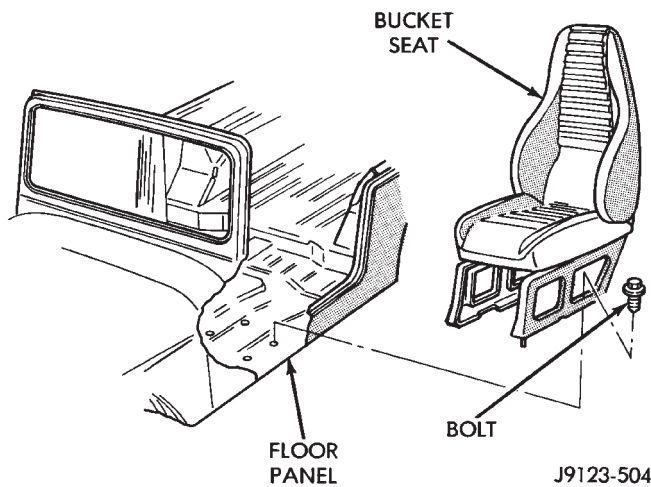
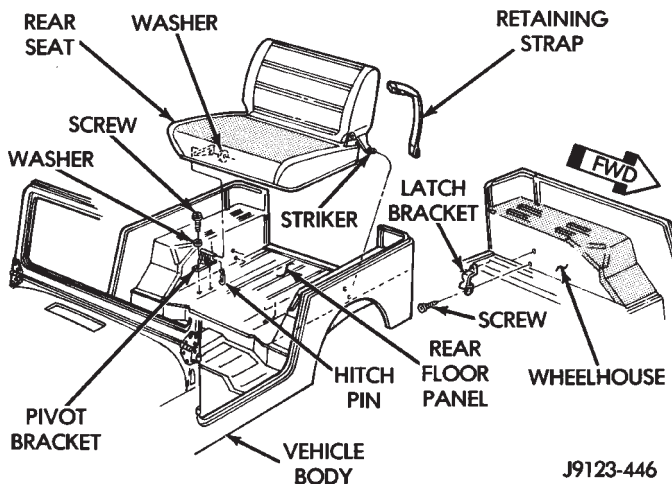

Fig. 19 Bucket Front Seat
Fig. 20 Pivoting/Folding, Bench-Type Rear Seat
Bucket-type front seats (Fig. 19) are standard on YJ vehicles. The rear passenger seat is a forward pivoting/folding, bench-type seat (Fig. 20).
- (1) Disengage the strikers from the latches (Fig. 20).
- (2) Remove the hitch pin, disengage the seat frame from the pivots and remove the seat from the vehicle (Fig. 20).
- (1) Position the seat on the rear floor panel and engage the seat frame with the pivots (Fig. 20).
- (2) Install the hitch pin (Fig. 20).
- (3) Pivot the seat rearward and engage the strikers with the latch brackets (Fig. 20).